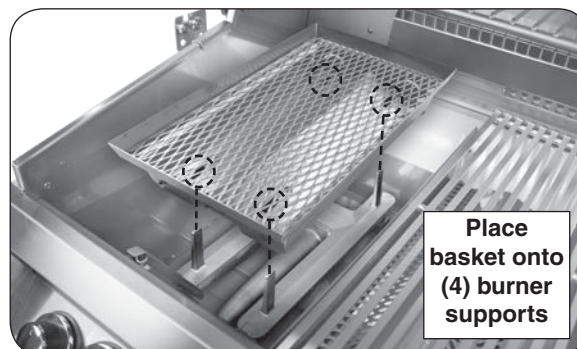
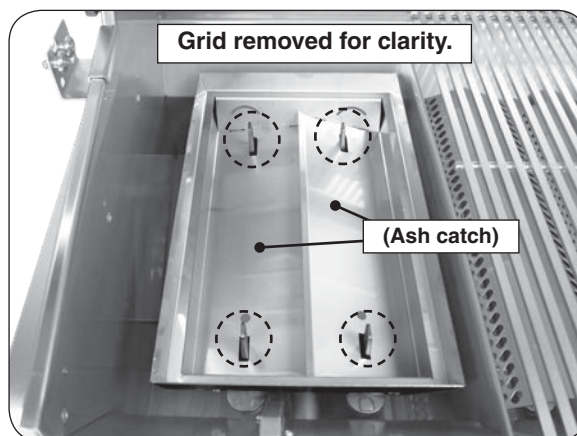

Fig. 34-3 Place basket onto burner
Fig. 34-4 Basket placement detail
3. Place basket onto burner in place of flavor grid. Align basket cutouts over burner supports (see Fig. 34-3 and Fig. 34-4).